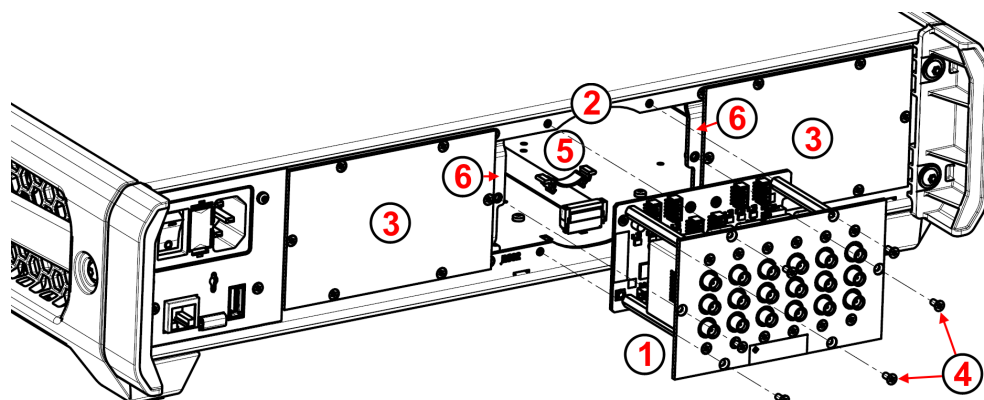

Figure 3-25: Mounting a module
Between the slots, also remove the 1 or 2 vertical panel struts (labeled 6 in Figure 3-25) by removing the Torx 8 screws).
- Fix each unused flat-ribbon cable by its clamp (labeled 5 in Figure 3-25).